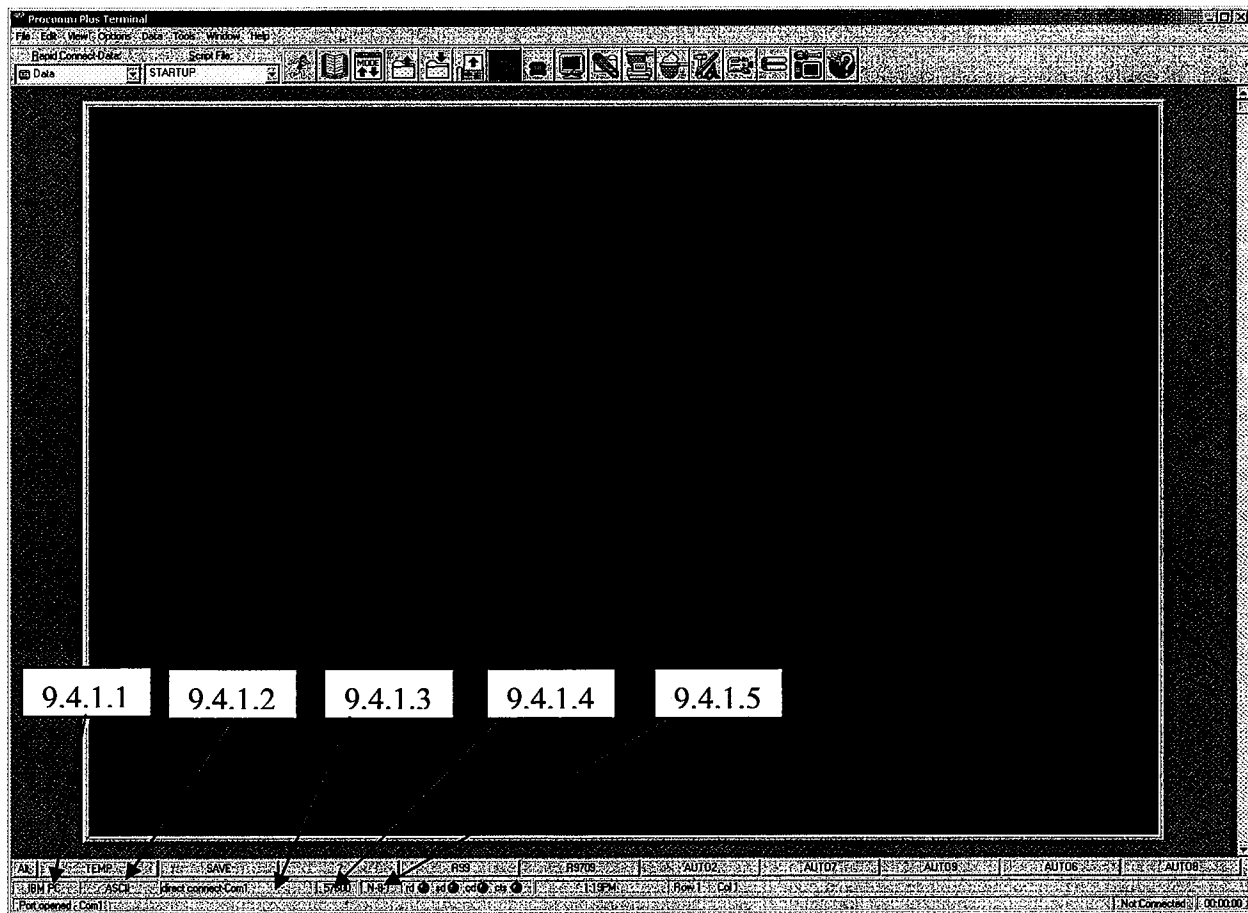

Figure 5
9.4.3 Below Figure 5 shows further detail.